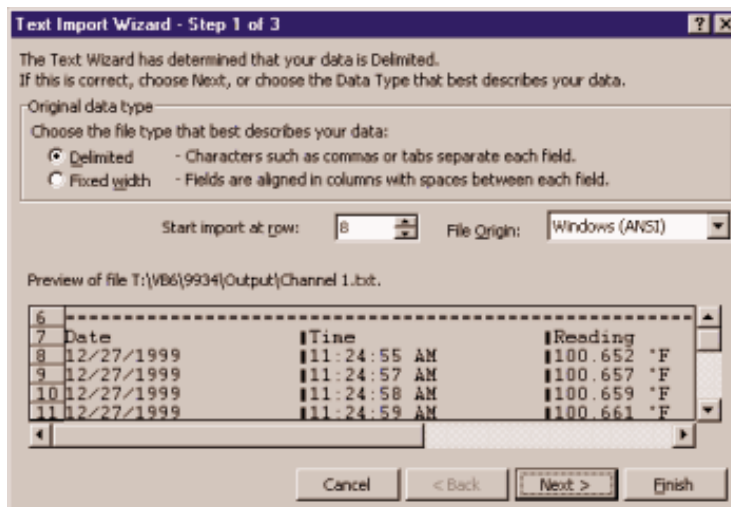

Figure 10 Text Import Wizard – Step 1 of 3 Dialog
- The Text Import Wizard – Step 1 of 3 dialog appears, Figure 10.